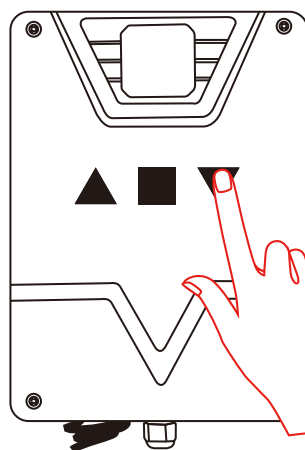

Figure 13
**Step 3.** Press and hold the “**Down**” button to close the gate, until the gate is closed in position then release the button. Press the “**STOP**” button to confirm the closed fully position. Fig 13